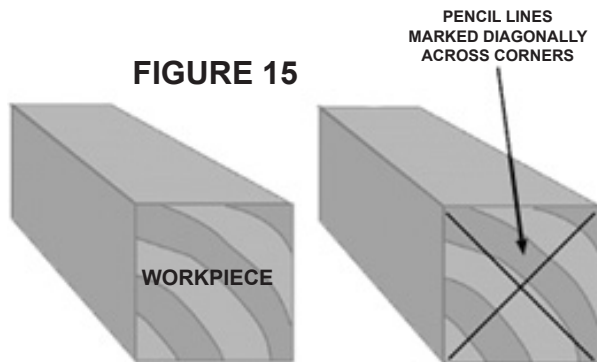

**Figure 14**
1. The Lathe features a yellow Safety Switch on the Power Switch (14) to prevent unauthorized use. See Figure 14, below. To turn the Lathe on, first plug the Power Cord (15) into the nearest 120 volt, grounded, electrical outlet.